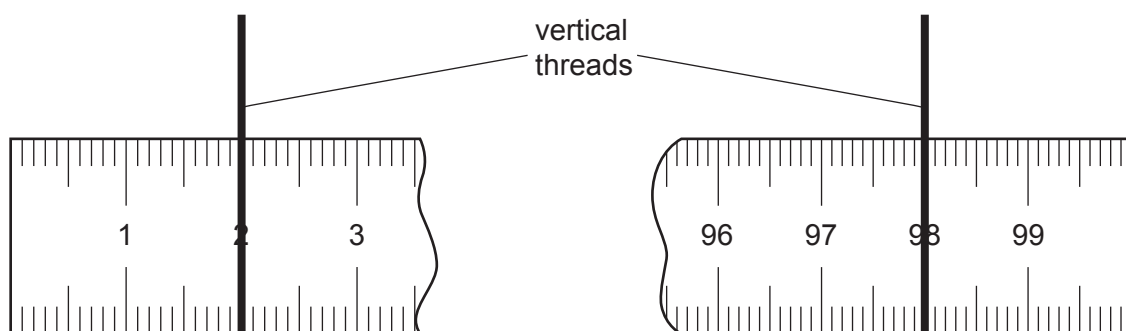

Fig. 1.2
- (b) The student moves the stands so that the vertical threads are at the marks on the metre rule shown in Fig. 1.2.